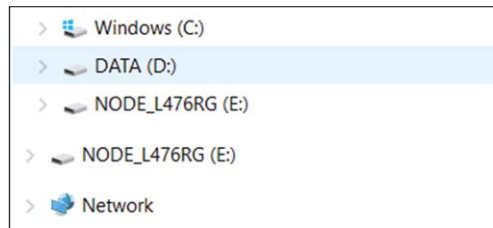

Figure 4.7: NODE_L476RG device.
- You should now be ready to upload the created binary file to the program memory of your Nucleo-L476RG board. Connect the board to your PC through a suitable USB connector. You should see 'NODE_L476RG' listed as a device on your PC (Figure 4.7).